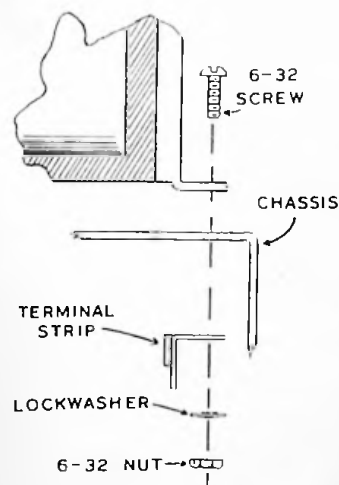

Figure 4
- () Mount the power transformer on top of the chassis. Also install the 3-lug terminal strip as shown in Figure 4.